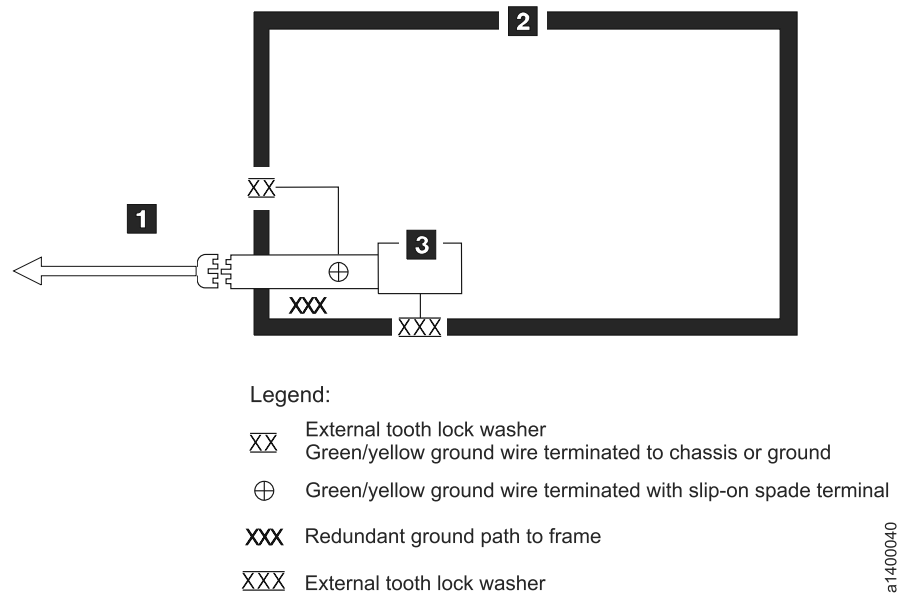

Figure 1. AC grounding diagram (50 Hz and 60 Hz)
3. See Figure 1 on page xiii which is provided for reference only. Disconnect the power cord from its source.